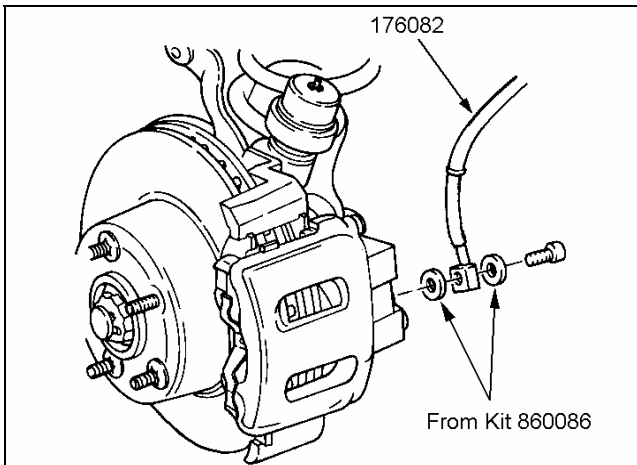

Figure 8
- 3) ☐ Attach left brake hose RS170082 to the caliper with NEW copper washers from kit RS860086, and the original bolt. See figure 8. Tighten the bolt to 23 ft.-lbs.